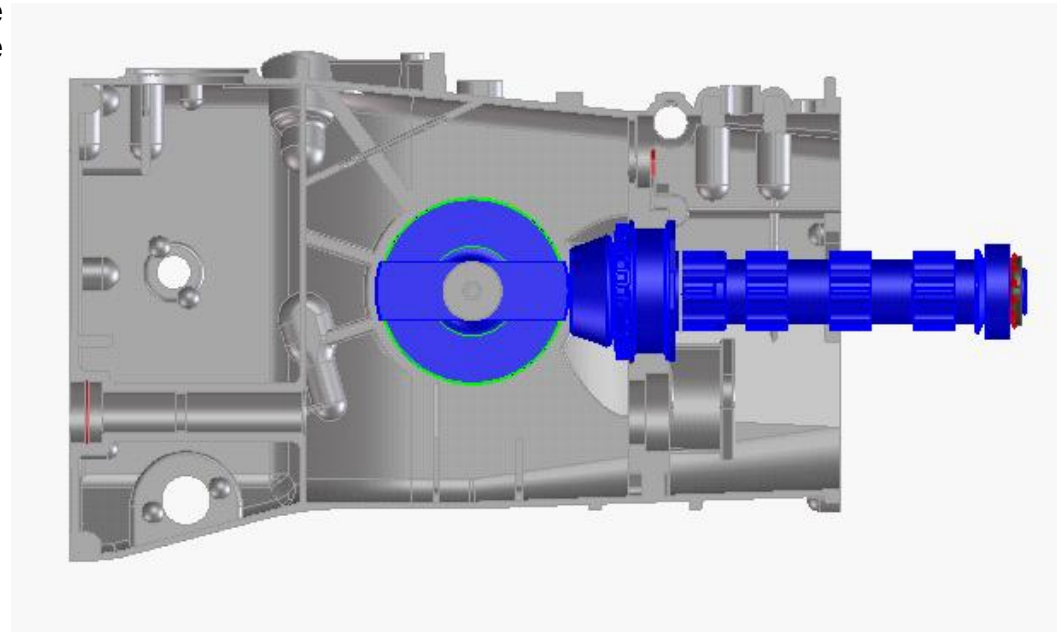

Fig.1 (FTR SHOWN)
If the minimum reading is outside of what is specified on the spiral bevel setup card, alter the shim (21) inside the maincase. Increasing the shim thickness will reduce the backlash, decreasing it will increase the backlash. (See Fig.1)